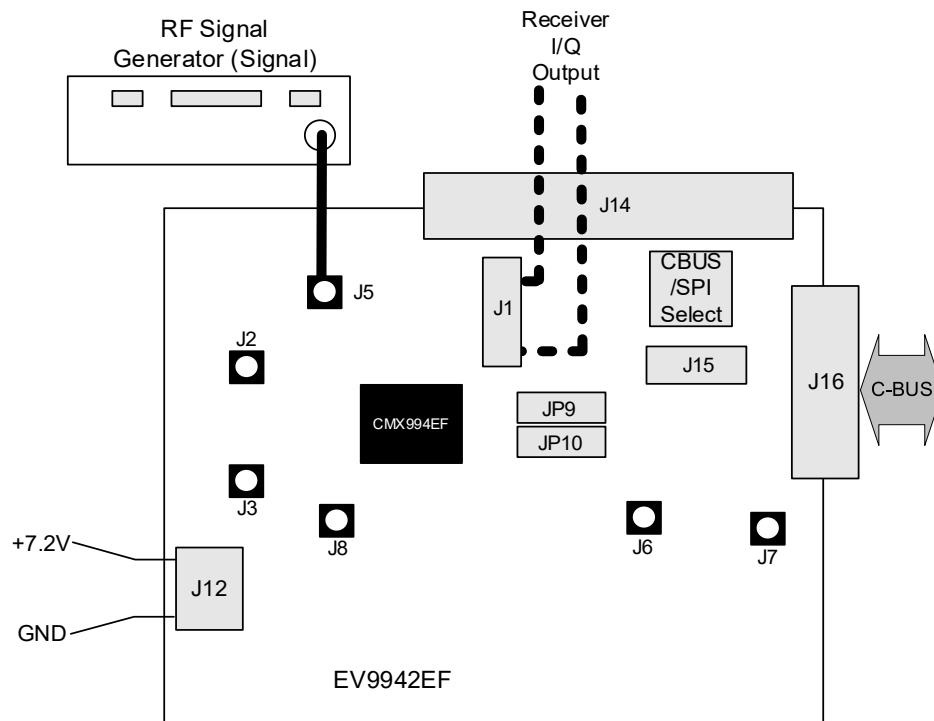

Figure 2 - Typical Evaluation Connections for EV9942EF
1. Connect test leads as shown below in Figure 2.